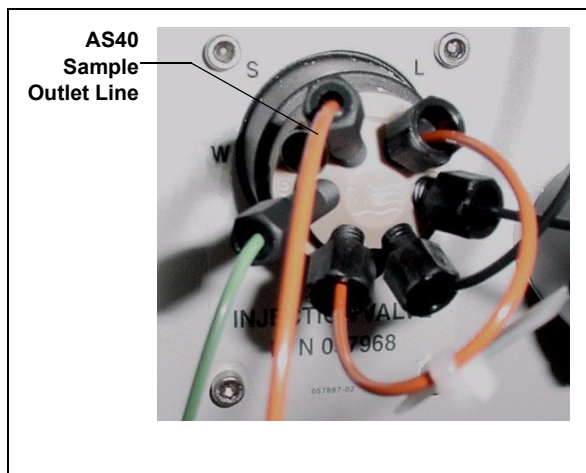

Figure 42. ICS-1000 Injection Valve
3. Connect the outlet line from the AS40 to port **S (5)** of the injection valve (see Figure 42).